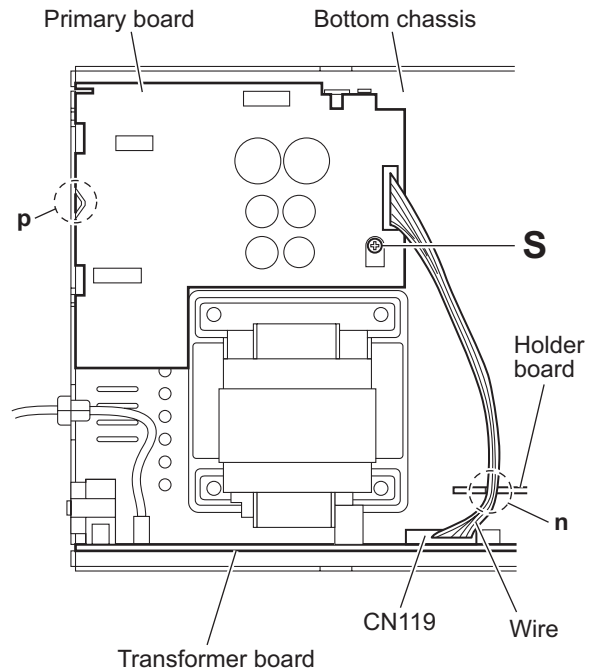

Fig.21
3.1.12 Removing the primary board (See Fig.21)